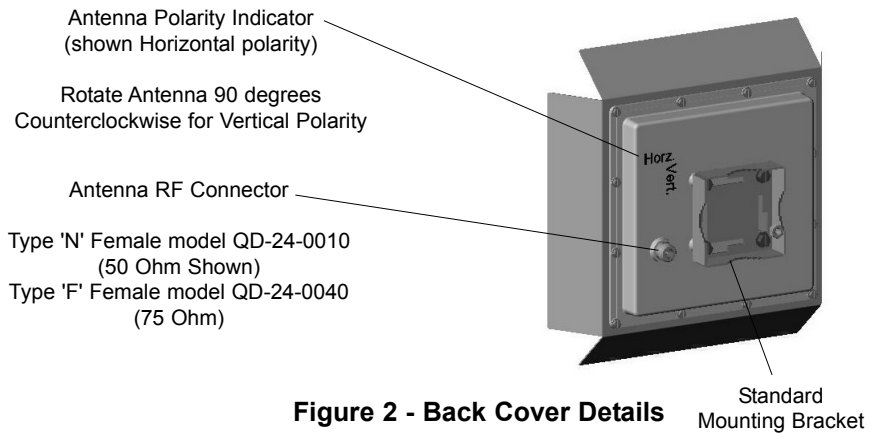

Figure 2 - Back Cover Details
- 1 Select Antenna Polarization.** Use antenna polarity indicator on back cover (see Figure 2). Rotate antenna 90° to change polarity.